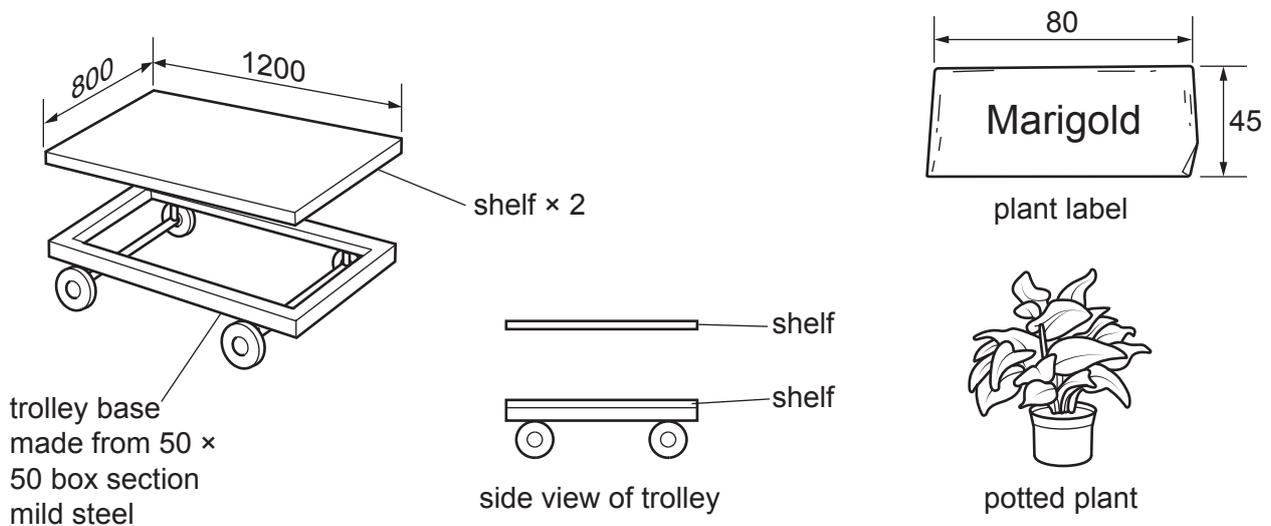

Fig. 7.1
- 7 Fig. 7.1 shows an incomplete design for a trolley that is to be used to move potted plants around a garden centre.